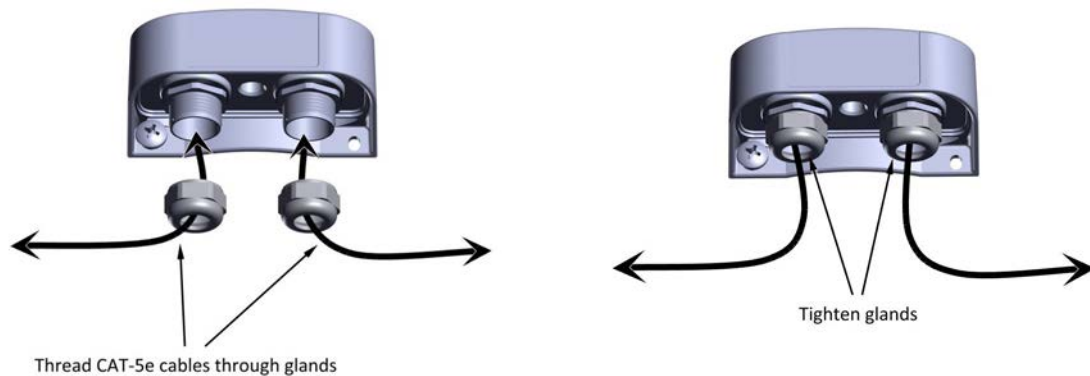

Figure 2-58: Connecting cables to the LPU (1) Figure 2-59: Connecting cables to the LPU (2)
6. Thread the CAT-5e/6 cables through the cable glands, and connect the cables to the LPU as shown in Figure 2-58.
5. Thread the CAT-5e/6 cables through the cable glands, and connect the cables to the LPU as shown in Figure 2-58.